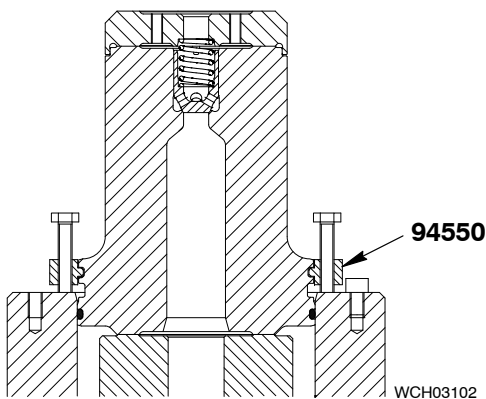

Fig. 11
- 5) Attach the clamp ring (94550, Fig. 11) to the valve block.
- 6) Use the clamp ring (94550) to remove the valve block (4).
- 7) Remove the retaining screw (5) and fluted seal ring.
- 8) Carefully remove the pump cylinder (7) from the housing (6).